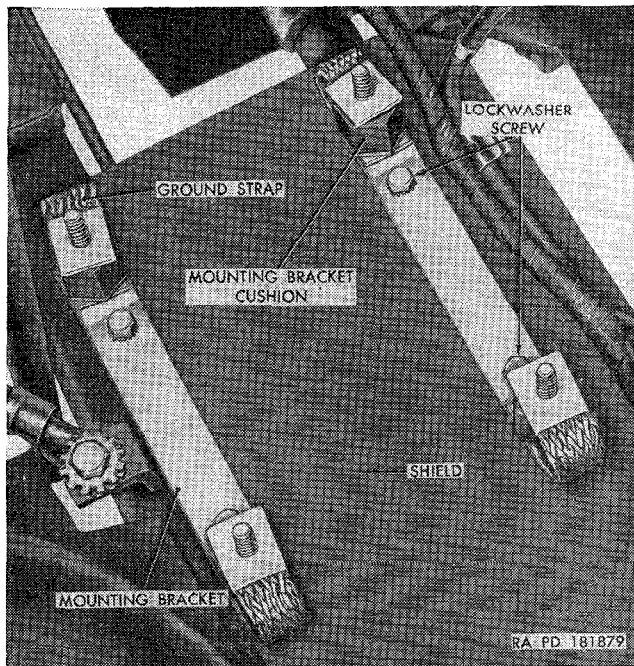

Figure 93. Generator regulator mounting brackets—installed (M38A1).
- (5) Remove the two lockwasher screws securing each of the two mounting brackets (fig. 93) to the shield and support. Lift the two mounting brackets off the shield. Unscrew the two mounting bracket cushion studs from each mounting bracket. Lift the ground strap from the stud in each mounting bracket cushion.
- (6) Free the generator regulator wiring cable from the two wiring clips mounted in the shield. Remove the screw and
- (1) Install the two wiring clips in the shield (fig. 93). Position the shield on the support welded to the frame right side rail. Secure the shield front to the frame right side rail with one flat washer and screw.
- (2) Install one end of a ground strap on one side of the stud protruding from one mounting bracket cushion (fig. 93). Install the other end of the strap on the other side of the